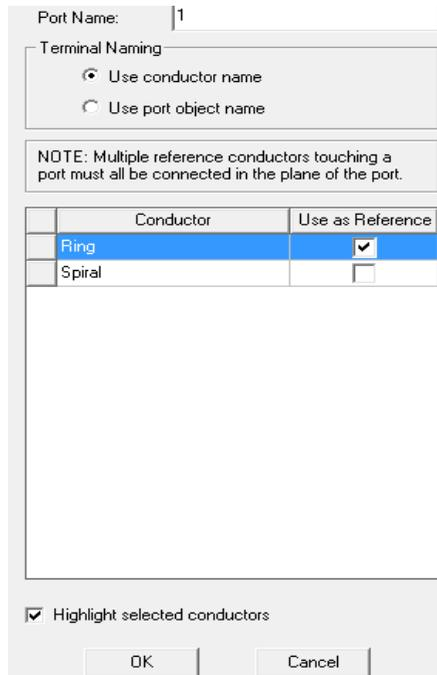

Figure 51. Reference Conductor Terminal dialog box
- 3 Set the options as shown in Figure 51 and click **OK**.
- 3 Set the rest of the options as in Figure 51 and click **OK**.